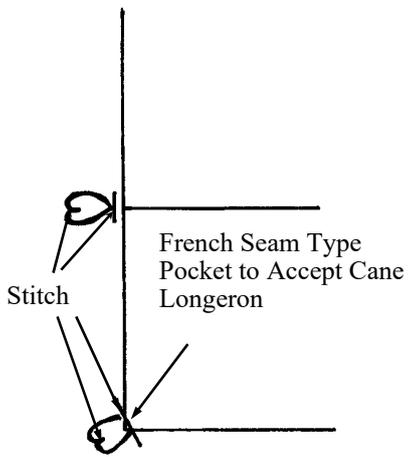

Fig. 3
4. Begin by joining pieces "A" and "B" along the 8 inch side where the  $\frac{3}{4}$  excess has been marked and sew along the  $\frac{1}{4}$  inch line from the end making sure that the outside parts of the sail are joined together. Then turn over and sew along the other line to form the  $\frac{1}{2}$  inch pocket (see Fig 3). Repeat the other end of the "B" piece by joining another "A" piece.